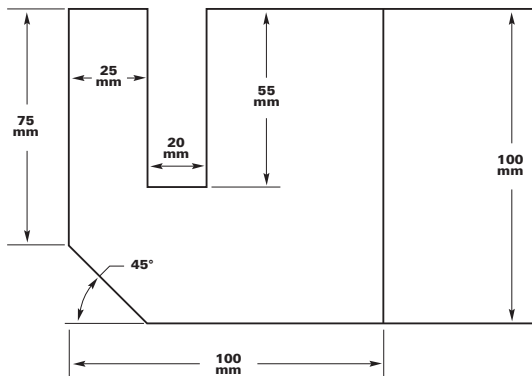
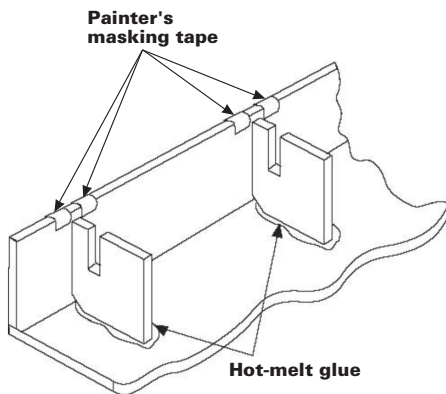
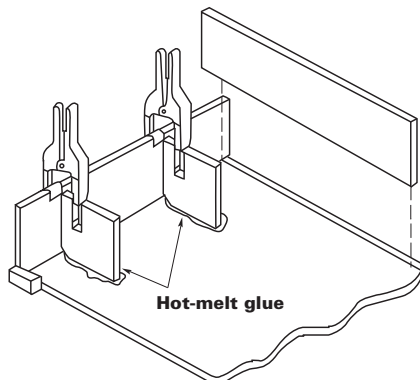

Figure B-1
Figure B-2
Figure B-3
To use the squaring blocks, position with the 45-degree cut near the cove at 300 mm intervals. During trial fitting of the upstand ensure the squaring blocks rest flush against the upstand and worktop. Apply hot-melt adhesive where the block rests on the worktop. Painter's masking tape can be used as a positioning tool to replicate trial fit when it comes to glue-up. See Figure B-2 and B-3.
12. Hot-melt squaring blocks are a useful aid (see Figure B-1) every 300 mm to hold the upstand in 90° position. This is shown in Figure B-2 and Figure B-3.